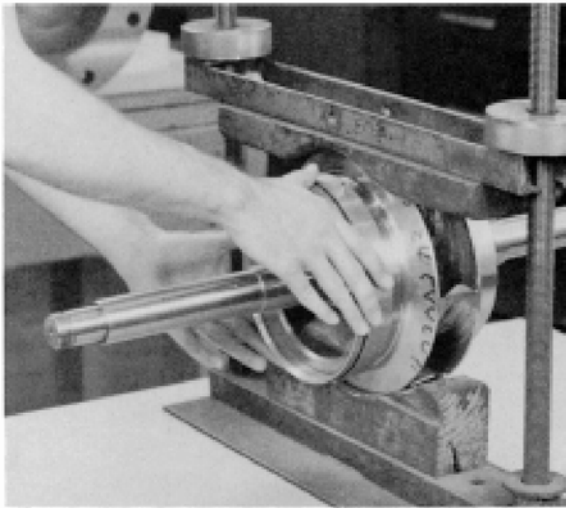

FIGURE 31 – REMOVING CASING RINGS FROM IMPELLER
11. Remove two casing rings (3-003-9) from the impeller (4-002-0) and remove O-rings (3-914-2) from each casing ring (See Figure 31).